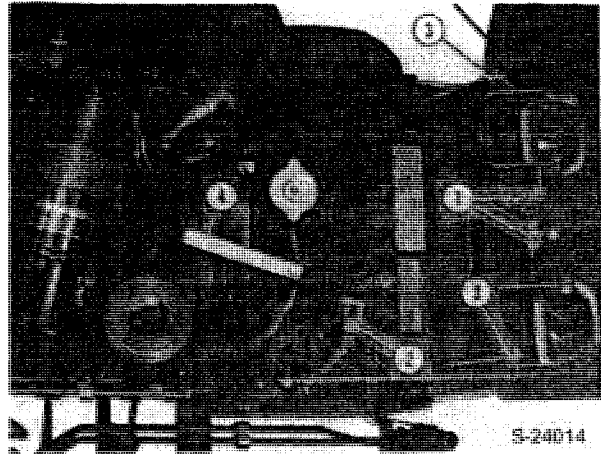

Figure 8
3. Disconnect the headlamp wiring connectors, Figure 8.
5. Remove the hood pivot pin cotter pins and remove the hood, Figure 8.
7. On model 1320/1520 tractors, remove the radiator upper brace, Figure 8.
2. Disconnect the battery negative cable, Figure 8.